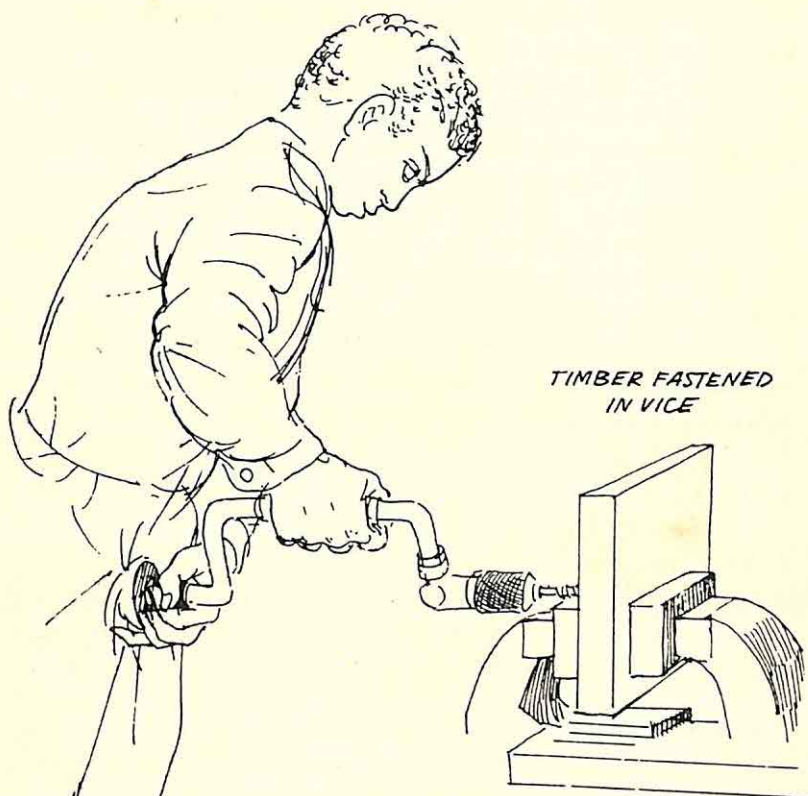

Figure 42
3. Clamp the wood securely in a vice. Place the feed-screw of the auger-bit into the starting hole made by the bradawl. The head of the brace is usually held against the body and supported by one hand, and the handle rotated by the other hand (see Figure 42).